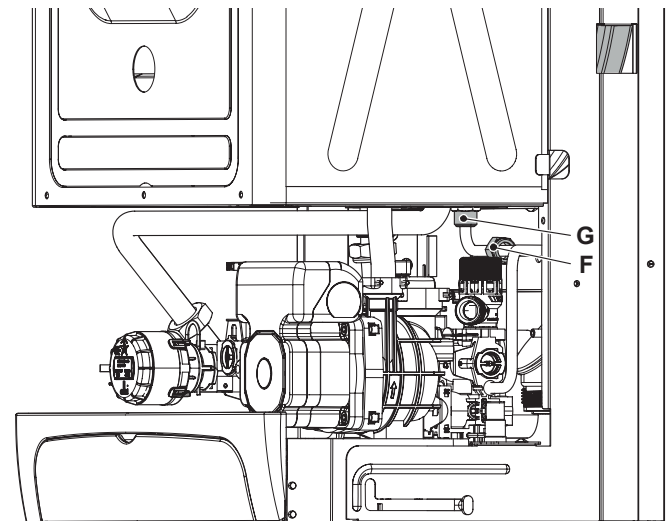

Figure 13.2
- 2 Completely unscrew the connection F, the locknut G (Figure 13.2) and remove the expansion vessel from the top of the boiler.